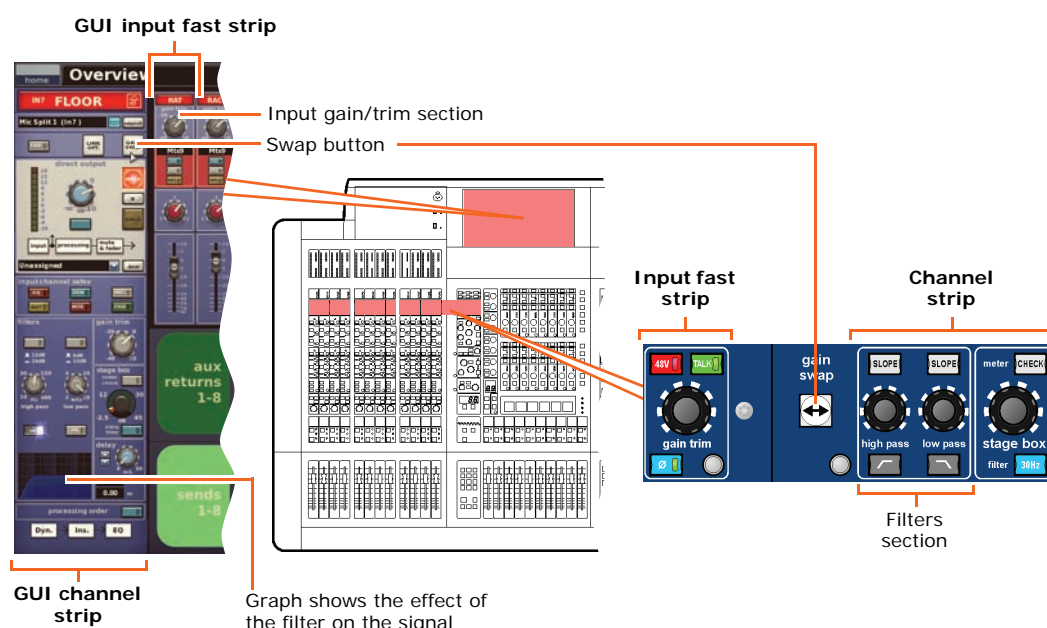

Figure 10: Gain and filter sections of the input strips
- 1 In the **gain trim** section of an input fast strip, press the quick access button (see Figure 10 “Gain and filter sections of the input strips” on page 43). This selects the input channel and assigns its configuration processing area to GUI channel strip, which contains the **GAIN SWAP** button.
- 1 In the **gain trim** section of an input fast strip (see Figure 10 “Gain and filter sections of the input strips” on page 43), press the quick access button. This selects the input channel and assigns its configuration processing area to the GUI channel strip, which contains the **filters** section.